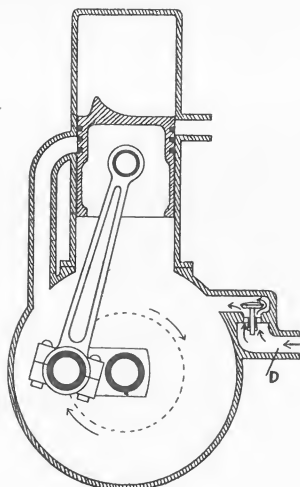

Fig. 14.
We will now explain how gas is got into the crankcase. Fig. 14 shows a mushroom valve like those used in the four-stroke engine, but fastened to the crankcase instead of to the cylinder. It is held down by a spring, but this spring is very weak, a very slight suck above the valve being enough to open it. The pipe (D) below the valve is connected to a carburetter or vaporizer, just as if it were the inlet valve of a four-stroke motor, and when the valve is open gas passes through it.